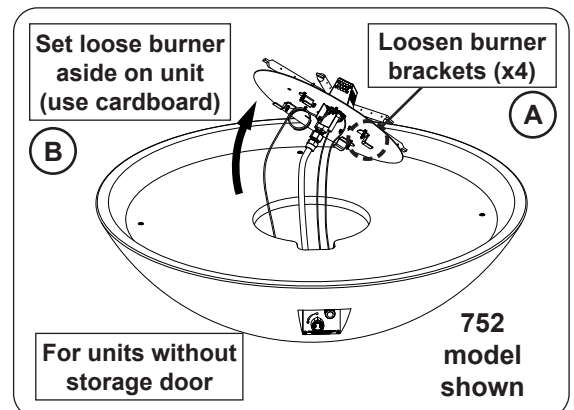

Fig. 29-3 Gain access to interior of unit (if needed)
For models without a storage door, use a  $5/16$ " nut driver to loosen the 4 screws found on the burner assembly (see Fig. 29-3, A).
3. Carefully lift out the burner just enough to set it off to the side (see Fig. 29-3, B).